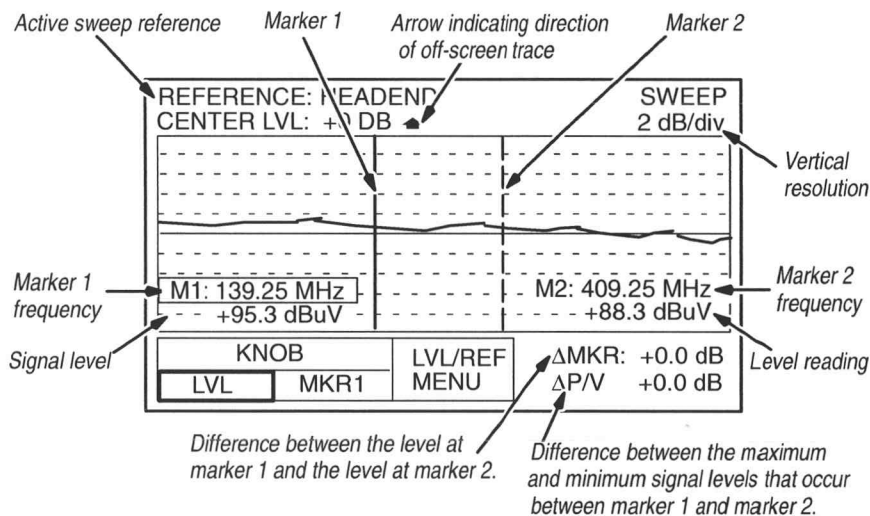

Figure 1-1: The Sweep Display
- a. A sample display is shown in Figure 1-1.